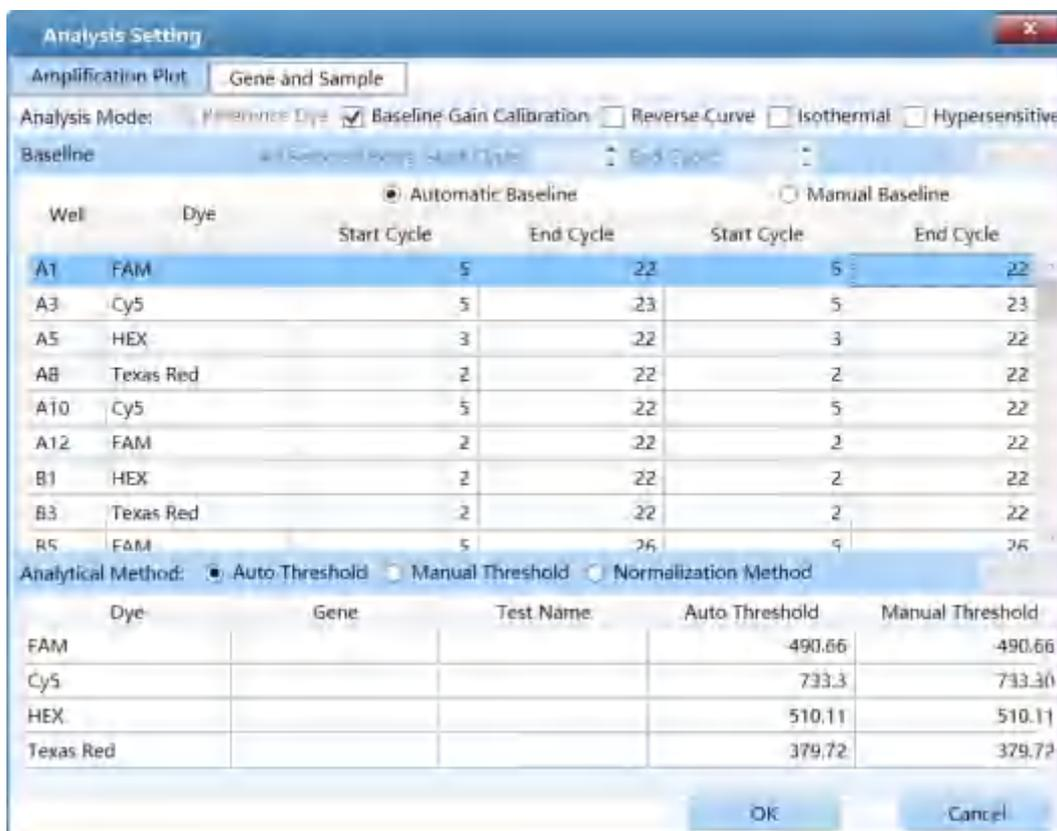

Figure D-9.1. Abs Quant Analysis Setting interface - Amplification Plot tab
- I. **Amplification Plot** tab: user can set the **Analysis Mode** and **Analysis Method** of the current experiment within the **Amplification Plot** tab, as shown in figure D-9.1.